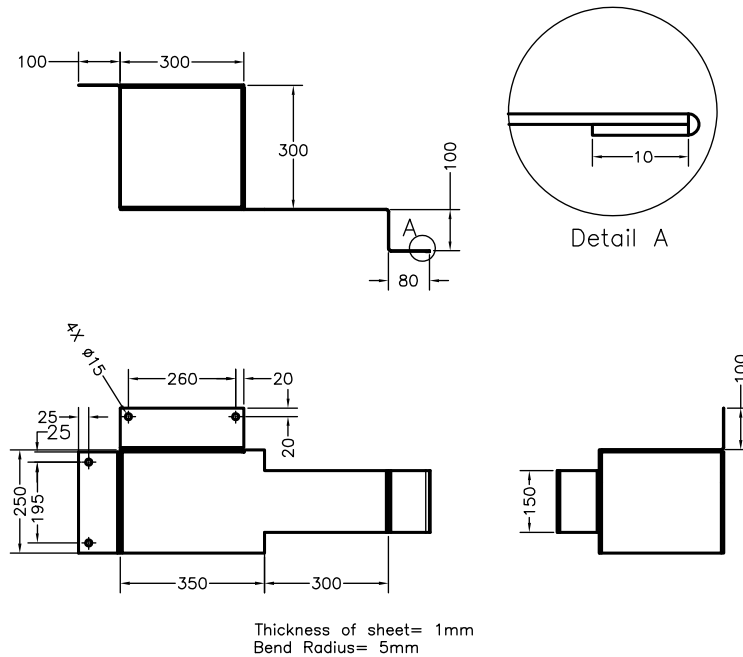
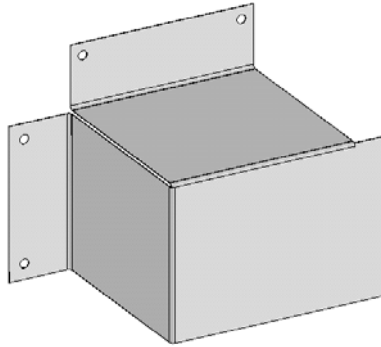
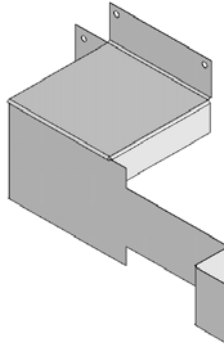

Figure 16-133 Drawing views and dimensions for Tutorial 1
Figure 16-140 Model after creating edge flanges and holes on the left of the model
Figure 16-143 Model after creating all edge flanges
5. Edit the sketch of the edge flanges and draw the sketch for the holes. Refer to Figure 16-133 for dimensions. Edge-flanges with the holes are shown in Figure 16-140.
4. Create three more edge flanges, two of length 100 mm and one of length 80 mm, refer to Figure 16-133. The model after creating all the edge flanges is displayed in Figure 16-143.